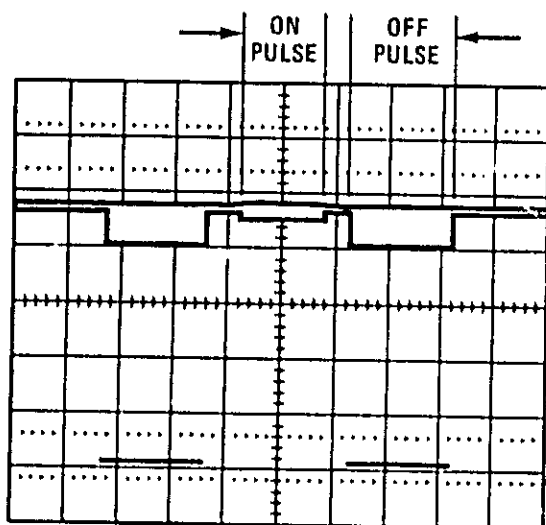

Figure 5-37. On/Off Pulse of Correctly Adjusted Circuit
7. Press INTENS MKR . Connect the oscilloscope probe to A7TP2. First, ensure that marker OFF pulses exist on both sides of the marker ON pulse. (Decreasing the oscilloscope BEAM INTENSITY will expose the marker ON pulses.) (See Figure 5-37.) While the crystal markers may function properly without them, the marker-off pulses provide a safeguard against false markers appearing on the display.